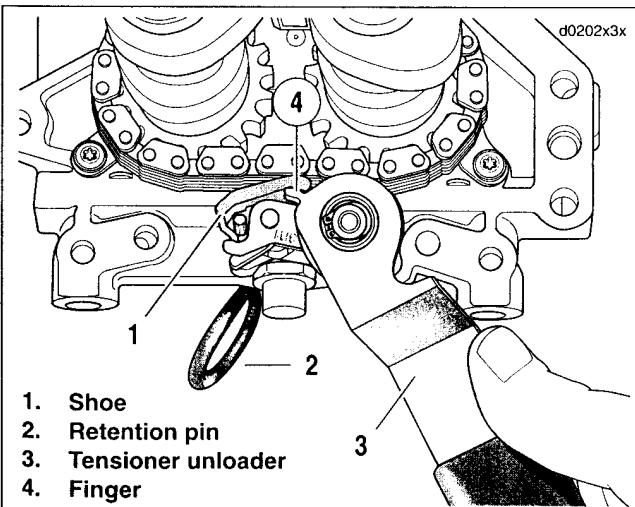

Figure 3-66. Securing Cam Chain Tensioner
2. See Figure 3-66. Eliminate secondary cam chain tension. For best results, place cam support plate in a vise using brass jaw inserts to prevent casting damage.
- a. Place cup of CAM CHAIN TENSIONER UNLOADER (3) (Part No. HD-42313) over spring coil of secondary cam chain tensioner. Position finger (4) on tool between tensioner and shoe (1).
- b. Rotate tool in a counterclockwise direction. Insert retention pin (2) through hole in boss on primary cam chain side of cam support plate. Pin engages hooks on tensioner to hold it in the retracted position.